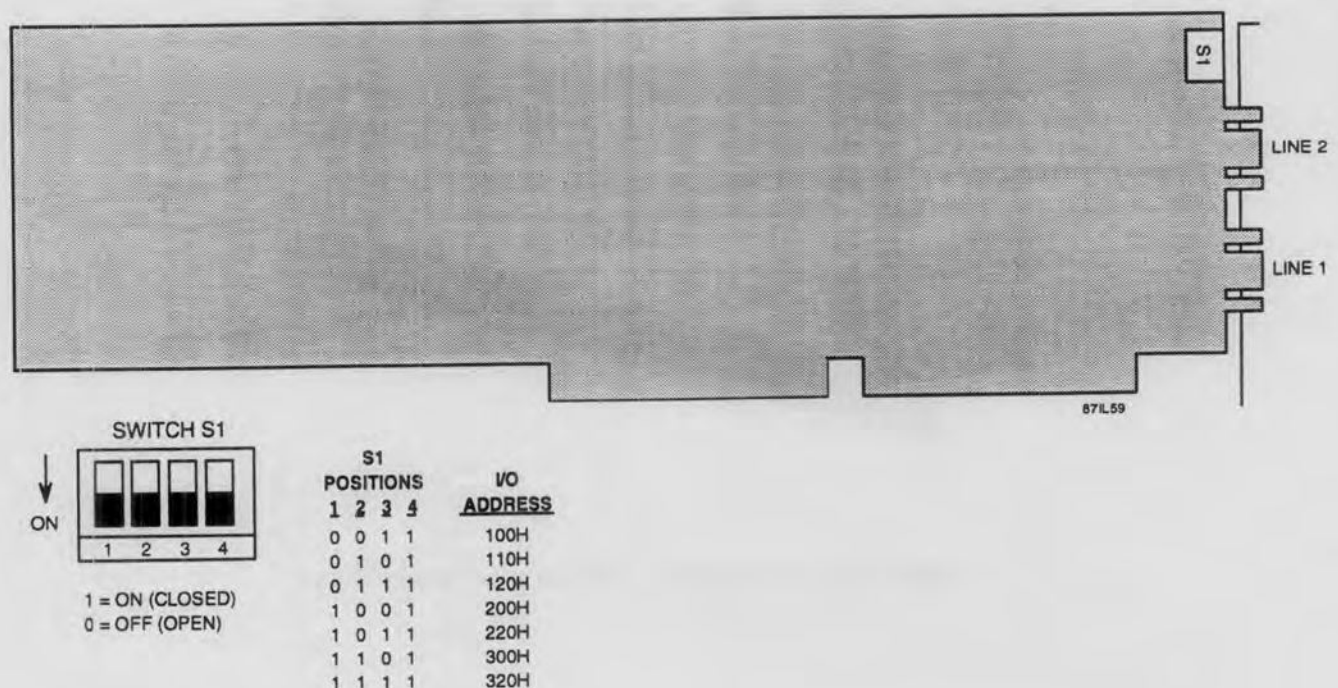

Figure G-3. Setting I/O Address Switch S1 on the I/O Communications Board
- b. Set switch S1 on the I/O Communications board (see **Figure G-3**) to the desired I/O address.